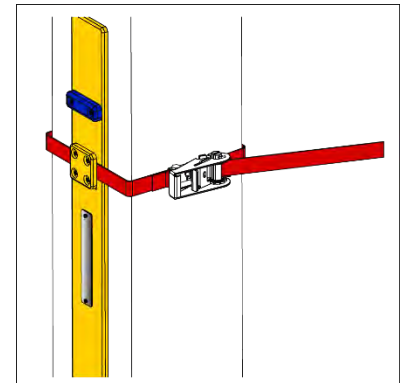

Figure 39
- ii) Wrap the red strap around the column, pass the strap through the 1" ratchet, and crank the ratchet until the post is secure (Fig. 39).